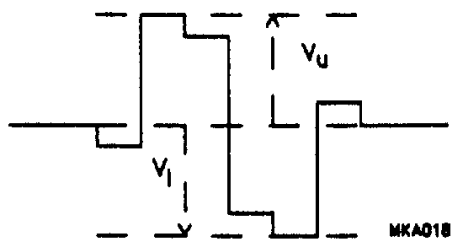

Fig.3 Non-linearity definition.
4. Measured as  $100\% \times (|V_{uI}| - |V_{lI}|) / (|V_{uI}| + |V_{lI}|)$ ; see Fig.3.